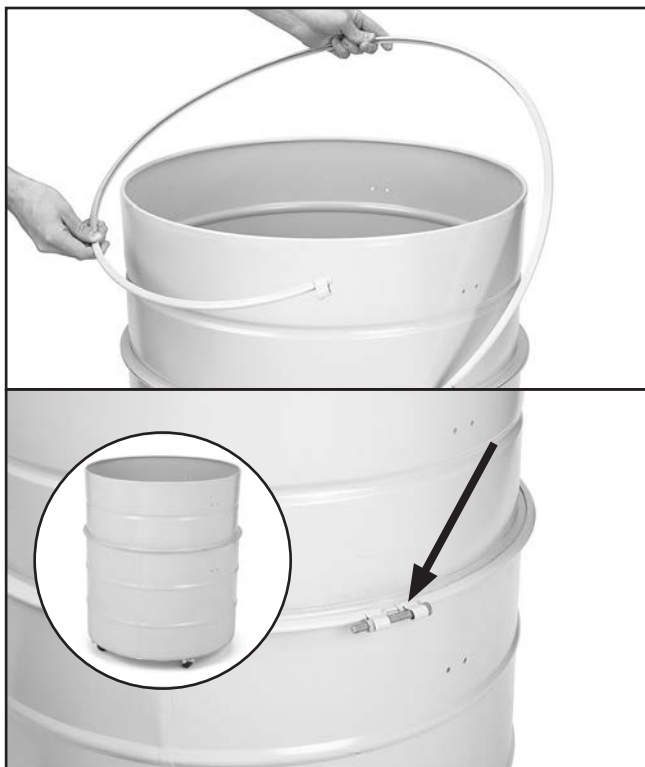

Figure 39. Installing drum clamp around dust collection cylinders.
44. Connect each upper and lower collection drum cylinder with a collection drum clamp and use (1) $\frac{5}{16}$ "-18 x 3" hex bolt and (1) $\frac{5}{16}$ "-18 hex nut to tighten the clamp (see **Figure 39**).